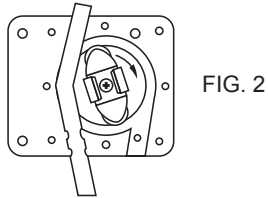

FIG. 2
6. Make sure the power is still disconnected. Rotate the roller bracket assembly until it is in the position shown in Fig. 2.